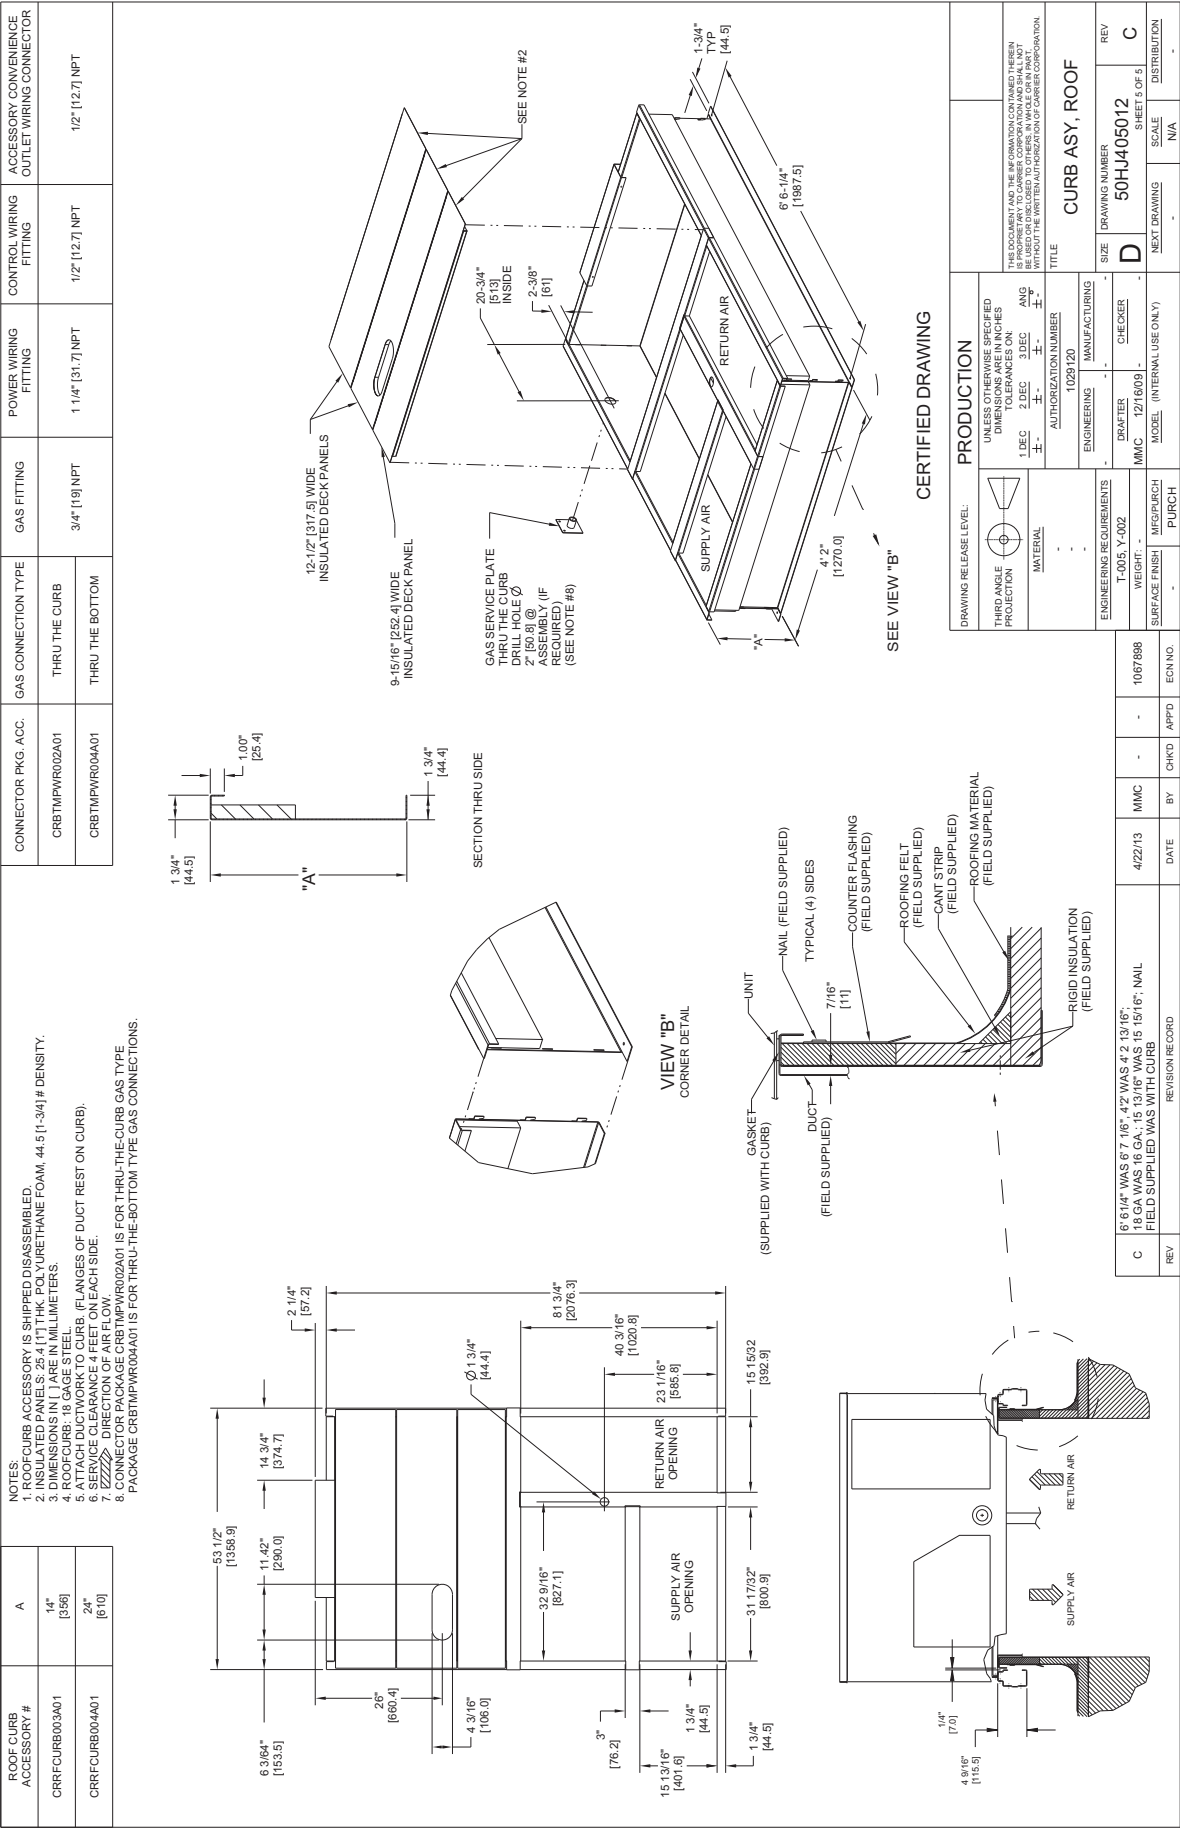

Fig. 7 — Roof Curb Details - RAS089-150
Step 1 — Plan for Unit Location — Select a location for the unit and its support system (curb or other) that provides for the minimum clearances required for safety. This includes the clearance to combustible surfaces, unit performance and service access below, around and above unit as specified in unit drawings. See Fig. 7 and 8.
ROOF CURB MOUNT — Accessory roof curb details and dimensions are shown in Fig. 7 and 8. Assemble and install accessory roof curb in accordance with instructions shipped with the curb.
NOTE: The gasketing of the unit to the roof curb is critical for a watertight seal. Install gasket supplied with the roof curb as shown in Fig. 7 and 8. Improperly applied gasket can also result in air leaks and poor unit performance.